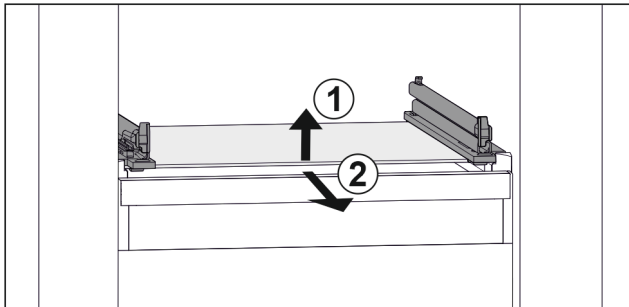

Fig. 45 Example illustration of glass shelf
- Lift glass shelf at the front. Fig. 45 (1)
- Take out glass shelf to the front. Fig. 45 (2)